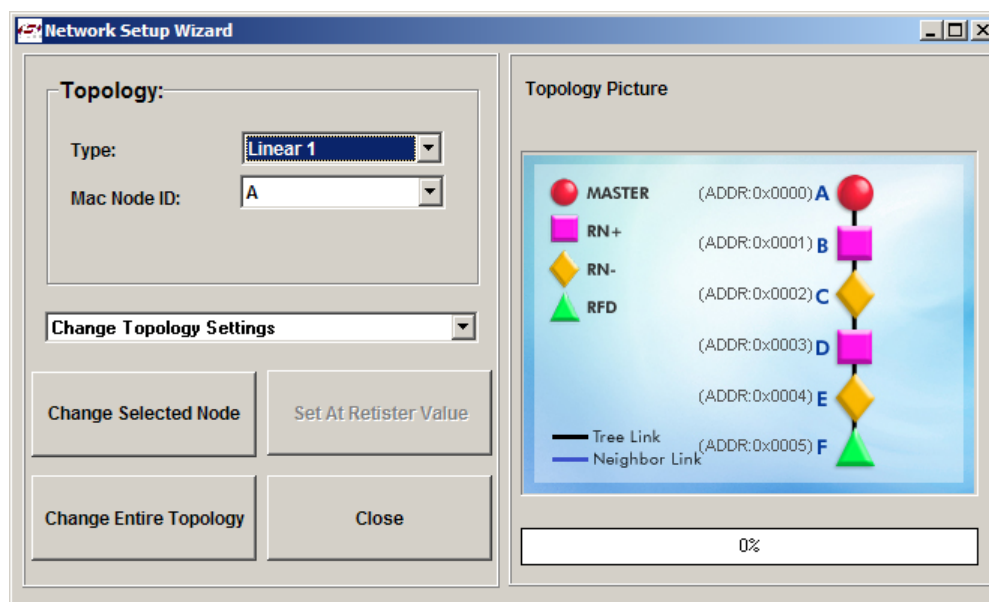

Figure 9. Network Configuration Wizard
2. Click the *Network Configuration Wizard* button to open the window shown in Figure 9: